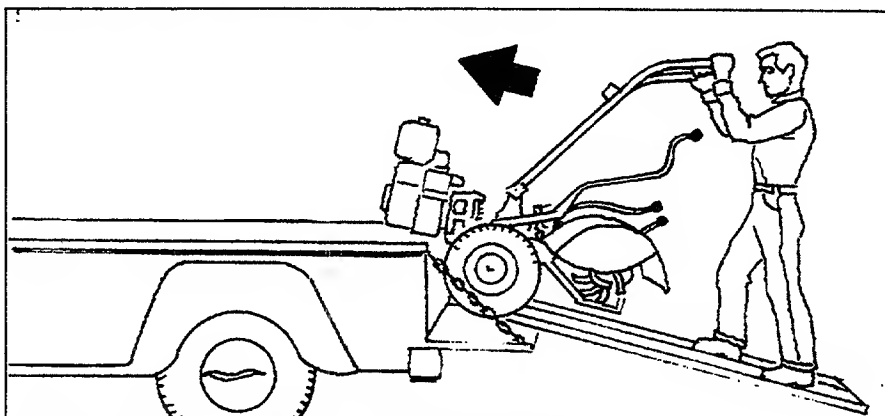

Figure 4-10: To go up ramps, use **FORWARD** drive.
4. To go up ramps, use **FORWARD** drive and follow the tiller up the ramps (Figure 4-10).